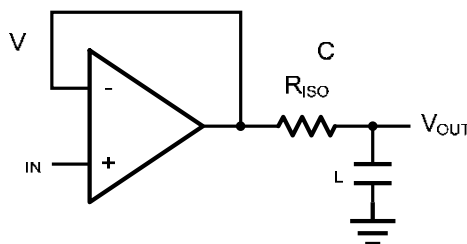
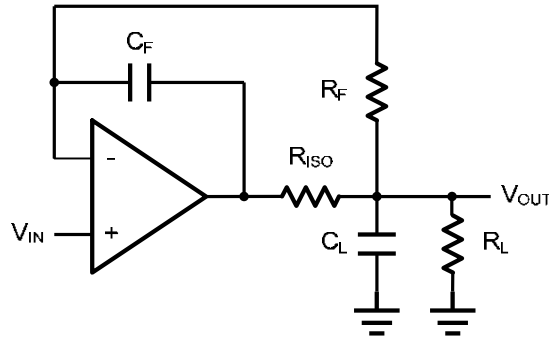

Figure 2 Indirectly Driving a Capacitive Load Using Isolation Resistor
Figure 3. Indirectly Driving a Capacitive Load with DC Accuracy
The LMV3XX family is optimized for bandwidth and speed, not for driving capacitive loads. Output capacitance will create a pole in the amplifier's feedback path, leading to excessive peaking and potential oscillation. If dealing with load capacitance is a requirement of the application, the two strategies to consider are (1) using a small resistor in series with the amplifier's output and the load capacitance and (2) reducing the bandwidth of the amplifier's feedback loop by increasing the overall noise gain. Figure 2 shows a unity gain follower using the series resistor strategy. The resistor isolates the output from the capacitance and, more importantly, creates a zero in the feedback path that compensates for the pole created by the output capacitance.
The circuit in Figure 3 is an improvement to the one in Figure 2.  $R_F$  provides the DC accuracy by feed-forward the  $V_{IN}$  to  $R_L$ .  $C_F$  and  $R_{ISO}$  serve to counteract the loss of phase margin by feeding the high frequency component of the output signal back to the amplifier's inverting input, thereby preserving the phase margin in the overall feedback loop. Capacitive drive can be increased by increasing the value of  $C_F$ . This in turn will slow down the pulse response.